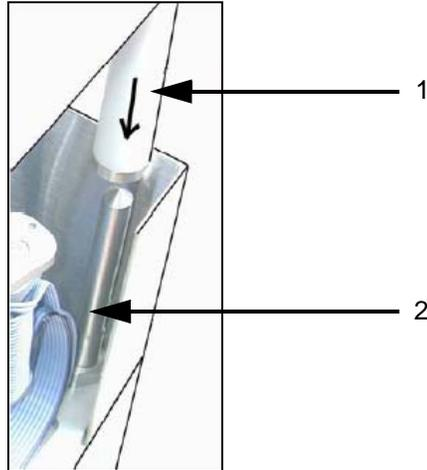

Figure 5-6: Cassette Removal
- 3 Hold the recessed handles and extract the cassette away from the printer body, as shown in Figure 5-6.